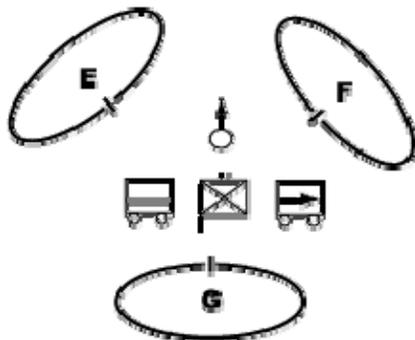

Figure 3-7. Battalion Assembly Area.
2. **The layout and defensive plan of the AA varies depending on the threat level, terrain, and mission.** *See Figure 3-7.*